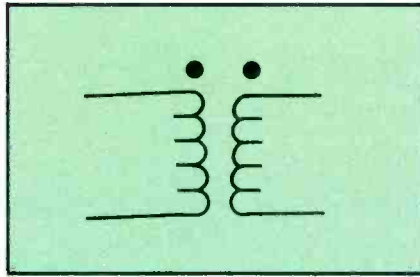

Figure 3. The dots on this transformer symbol provide some important information. Do you know what it is?
**Question:** What do the dots on the transformer symbol in Figure 3 represent?